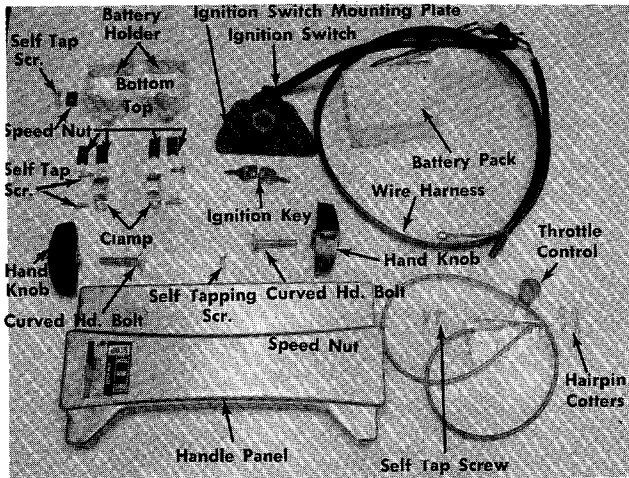

FIGURE 7. PARTS PROVIDED
2. Place a speed nut on bottom of one of the battery holders. See figure 7.
5. Place four more speed nuts on the top of battery holders. See figure 7.